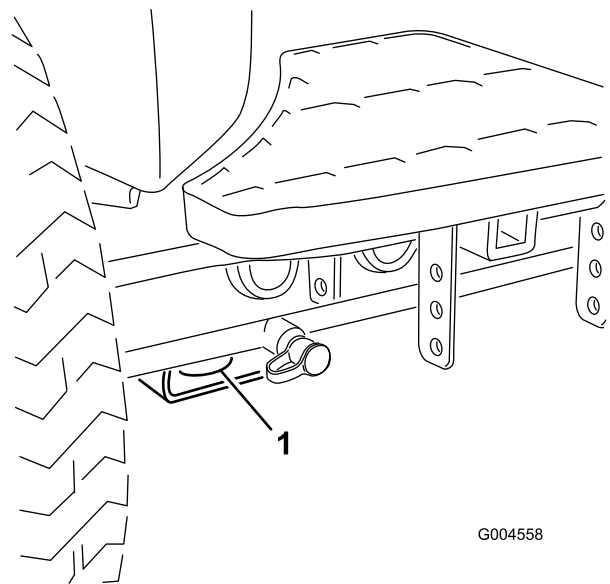
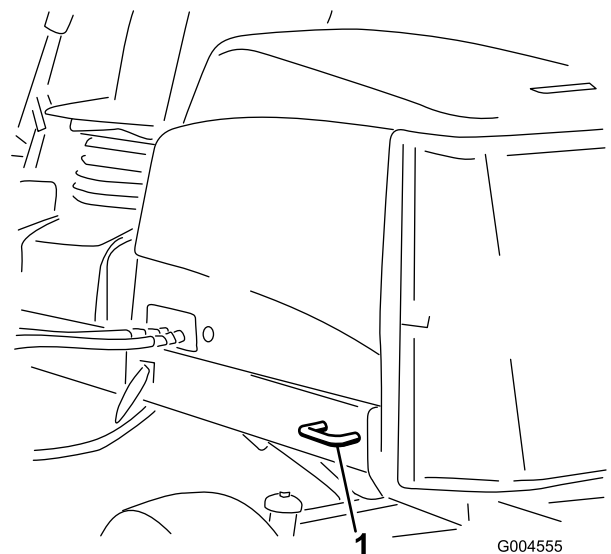

Figure 36
Figure 37
5. Use the metal tie-downs on the machine to securely fasten the machine to the trailer or truck with straps, chains, cable, or ropes (Figure 36 and Figure 37).
- Front—the hole in the rectangular pad, under the axle tube, inside each front tire (Figure 36)
- Rear—each side of the machine on the rear frame (Figure 37)